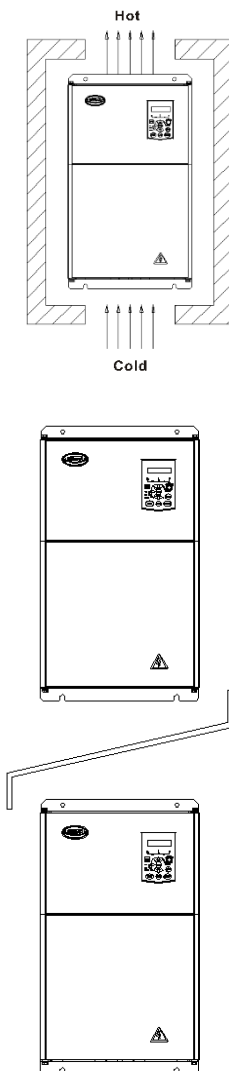

Figure 3-1 Heat Insulation Guide Plate Installation Diagram
1) Please install the frequency converter vertically so that the heat can be distributed upward. But it can't be inverted. If there is a multi-frequency cabinet, it is best to install side by side. For the occasion of installation, please refer to the schematic of Figure 3-1 to install the heat insulation guide plate.
2) The installation space is shown in Figure 3-1 to ensure the heat dissipation space of the converter. But when arranging, please consider the heat dissipation of other devices in the cabinet.